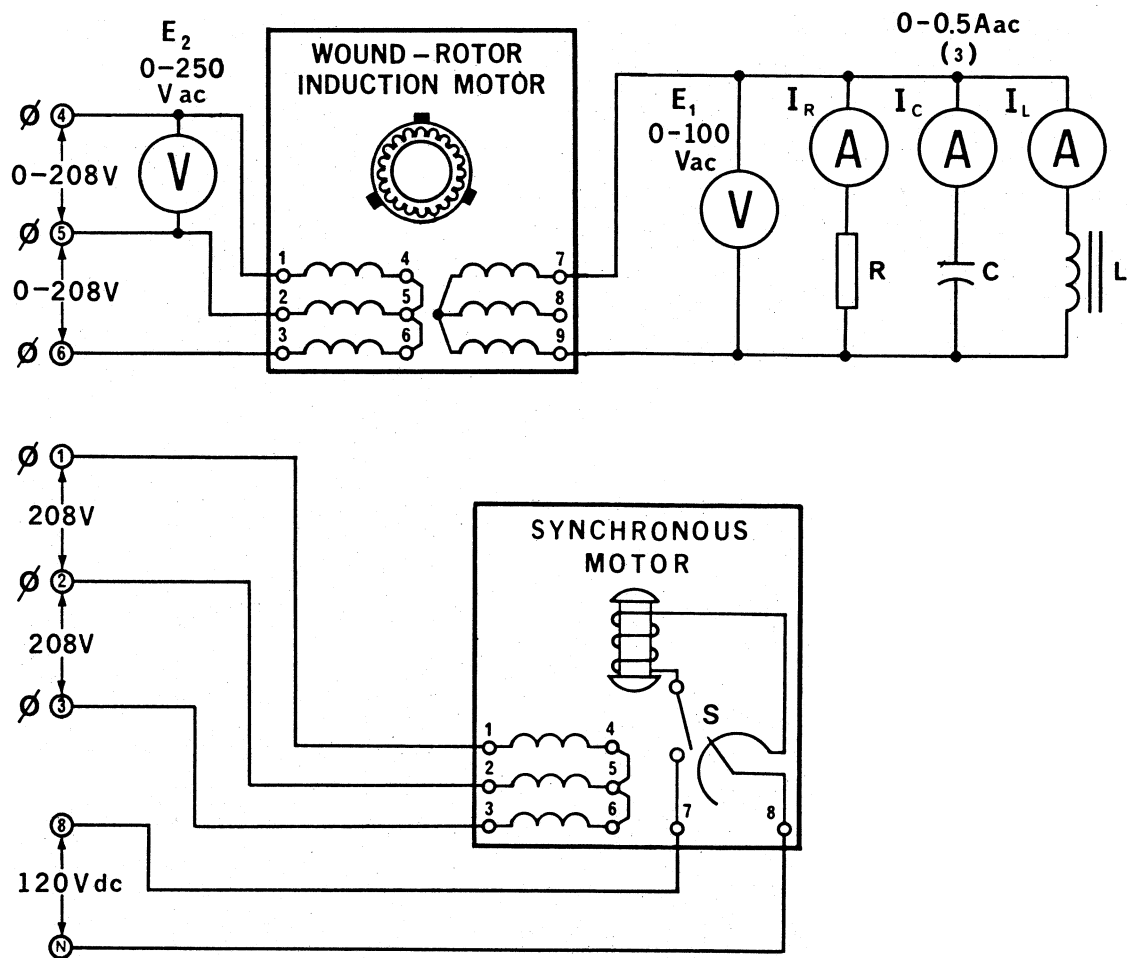

Figure 16-3.
- a. Using your Three-Phase Wound-Rotor Induction Motor and Three-Phase Synchronous Motor/Generator, connect the circuit shown in Figure 16-3. Note that the stator of the synchronous motor is connected to the fixed 208 V 3ϕ output of the power supply, terminals 1, 2 and 3. The rotor of the synchronous motor is connected to the variable 0-208 V 3ϕ output of the power supply, terminals 4, 5 and 6. The loads are connected to rotor terminals 7 and 9.